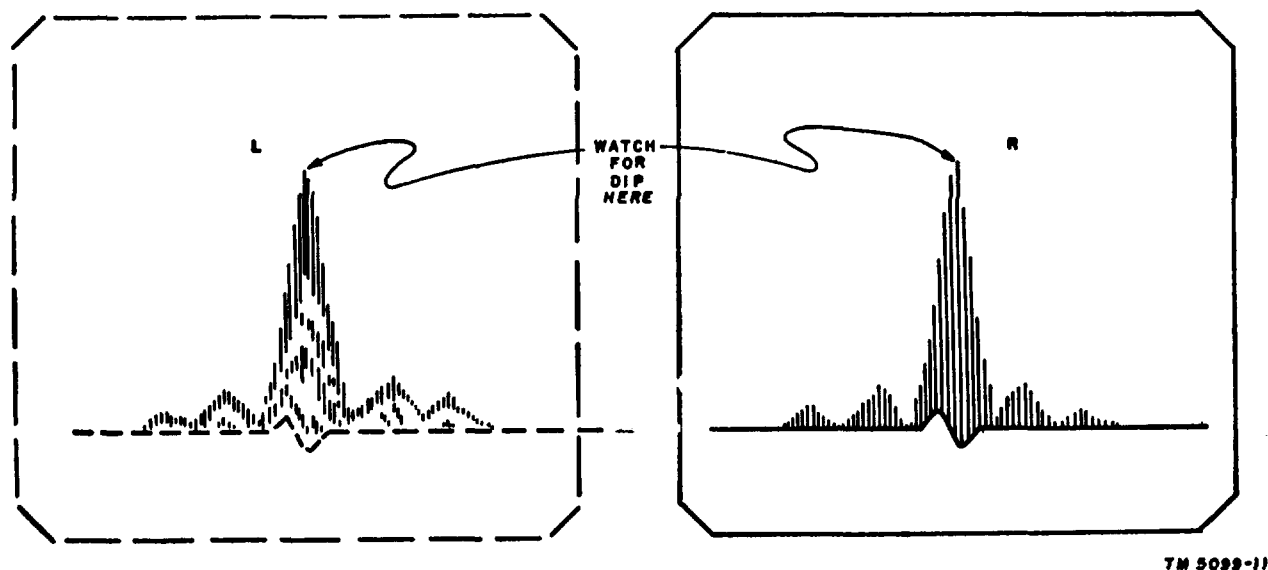

Figure 9. Measuring frequency by tuning frequency meter for dip in each spectrum.
c. *Single Spectrum Image on Screen.* When only one spectrum image can be made to appear on the screen (fig. 9), the following procedure is used to determine the frequency of the unknown signal.
- (1) Determine whether the spectrum image is a left-hand or a right-hand image by turning the TUNING control counterclockwise and noting whether another image appears on the screen. If another image appears, the image is that of a left-hand spectrum. If no image appears, the image is that of a right-hand spectrum.
- (2) Use the tuning control to center the image on the screen. Vary the FREQUENCY MC control so that the frequency meter dip coincides (causes the main lobe to decrease in amplitude) with the spectrum image.
- (3) If the frequency meter is tuned so that its dip coincides with the right-hand image, the dial reading represents the frequency of the spectrum analyzer oscillator which is 45 mc above the unknown frequency. Therefore, 45 mc must be subtracted from the dial reading to obtain the frequency of the unknown signal.
- (4) If the frequency meter is tuned so that the dip coincides with the left-hand image, the dial reading represents the frequency of the spectrum analyzer oscillator which is now 45 mc below the frequency of the unknown frequency. In this case, 45 mc must be added to the dial reading to obtain the unknown frequency.